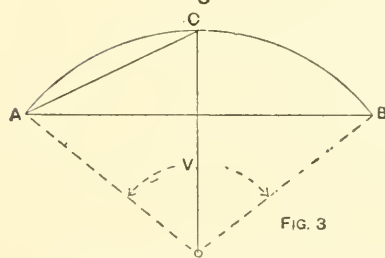

FIG. 3
will be approximately equal in length to the arc A B. Apart from geometrical construction, the length of the arc may be measured by stepping a pair of dividers round the arc, counting the number of steps taken, and then setting out the same number of steps along a straight line. This will always give a result short of the actual length, but the smaller the opening of the dividers the more accurate will be the result. A more accurate way is to use a wheelmeaf, or a special instrument called an opisometer. The length of the arc may be calculated as follows. Set out the arc either full size or to as large a scale as possible, as in Fig. 3. Measure the chord A B, bisect it, and set up a perpendicular cutting the arc in C. Measure A C, which is the chord of half the arc. The length of the arc is found by multiplying the length of A C, the chord of half the arc, by 8, from this product subtracting the length of the chord A B, and dividing the remainder by 3. If the radius of the curve is known, and also the number of degrees contained in the angle (V), the length of the arc may be calculated in another way, as follows. The circumference of the whole circle is found by multiplying twice the radius by 3.1416. Then, as the circumference contains 360°, the length of the arc will be proportionate to the number of degrees it contains, and can be arrived at by a simple rule of three sum, thus, 360° : degrees in the arc :: circumference : length of arc.